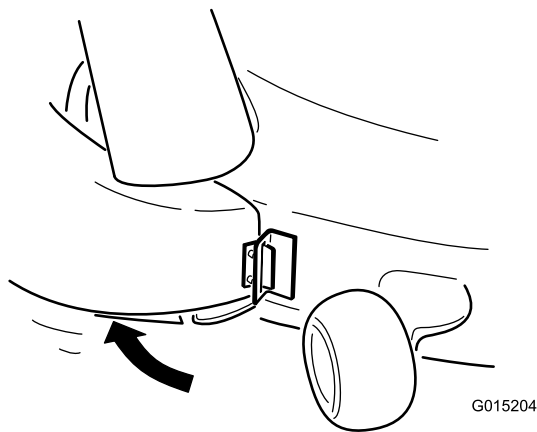

Figure 21
- Pivot the chute back and toward the deck so chute is flush with the mower deck (Figure 21).